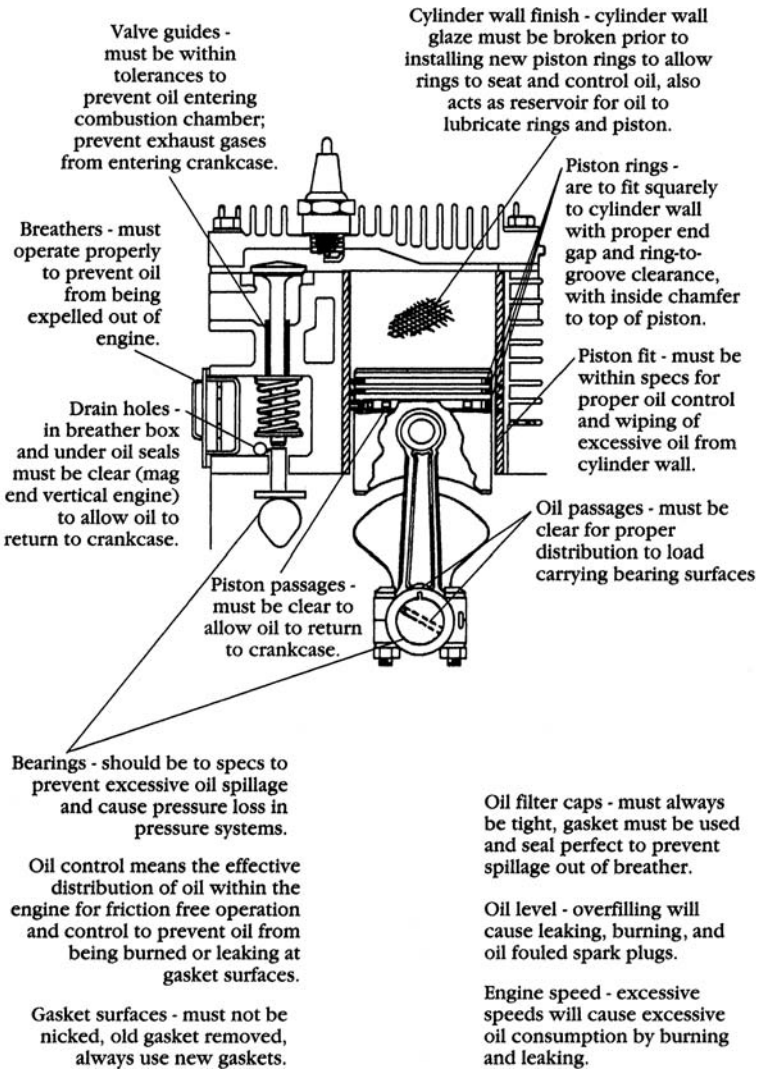

FIG. 7-3. *Factors that affect oil consumption.* Tecumseh Products Co.
- High oil consumption: Figure 7-3 covers all bases, but it is important to distinguish between loss of oil caused by burning and oil leaks. Blue exhaust smoke suggests ring wear. A leaking intake-valve oil seal on OHV models smokes the exhaust immediately after startup and, often, during sudden acceleration. Failure of the breather (see below) also results in high oil consumption. Oil leaks can often be repaired without major disassembly.